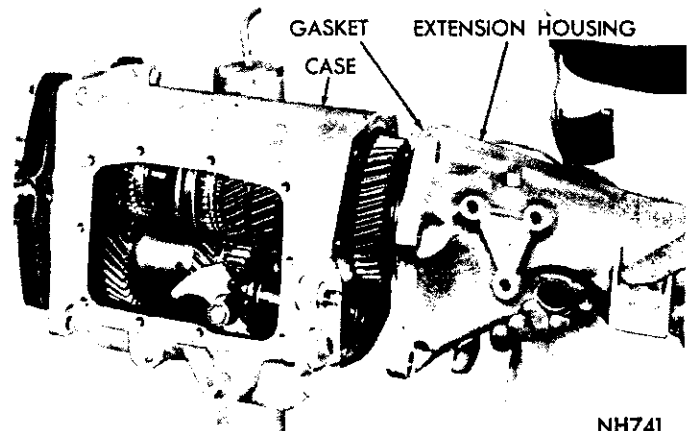

Fig. 20—Removing or Installing Extension Housing and Mainshaft Assembly
(2) Remove bolts that attach extension housing to transmission case.
(3) Slide third and fourth synchronizer sleeve slightly forward, slide reverse idler gear to center of its shaft, then using a soft hammer, tap on extension housing (in a rearward direction). Slide housing and mainshaft assembly out and away from the case (Fig. 20).